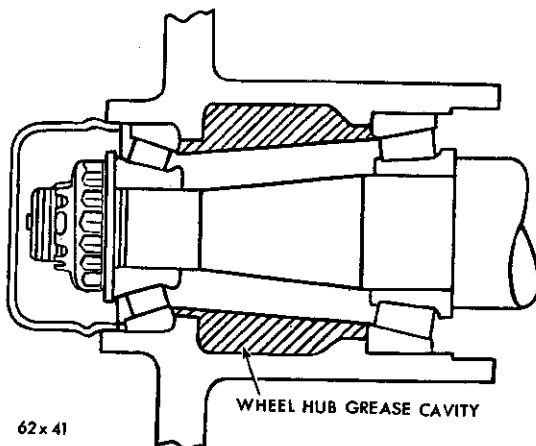

Fig. 7—Wheel Hub Grease Cavity
(1) If the bearing cups were removed, start the new cups into the hub evenly, driving them flush with the hub, using a soft steel block and hammer. Seat the cups against the shoulders in the hub, using a soft steel drift and hammer.
(2) Fill the hub cavity with the recommended wheel bearing lubricant, as shown in Figure 7. The lubricant should be even with the inner diameter of the bearing cups.
(3) Force the lubricant between the bearing cone rollers or repack with a bearing packer tool.
(4) Install the inner cone and a new oil seal with the lip of the seal facing inward. Use Tool C-3893 to install the seal. The seal flange may be damaged if the tool is not used.
(5) Clean the spindle and install the wheel bearing and drum assembly.
(6) Install the outer bearing cone, thrust washer and adjusting nut.